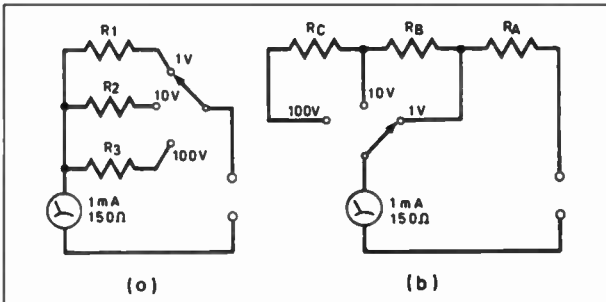

Fig. 4.10. Two simple voltmeter circuits – which would you choose?
5. You have a panel meter which has a f.s.d. of $1mA$ and a resistance of 150Ω , and would like to make yourself a simple voltmeter having voltage ranges of $1V$, $10V$ and $100V$ selected by a switch. Fig. 4.10 shows two ways of building such a switched voltmeter, using three multiplier resistors. Which of these ways would possibly be preferable in a practical design; give your reasons? Calculate the required values of the resistors needed for each circuit.